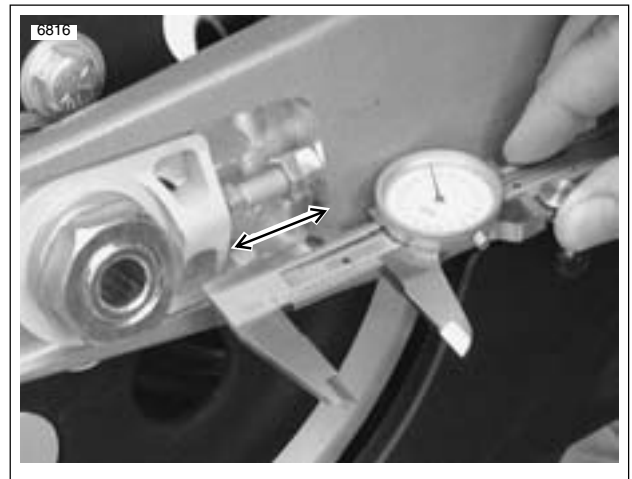

Figure 2-73. Checking Rear Wheel Alignment, Right Side Shown
- a. See Figure 2-73. Check rear axle alignment.